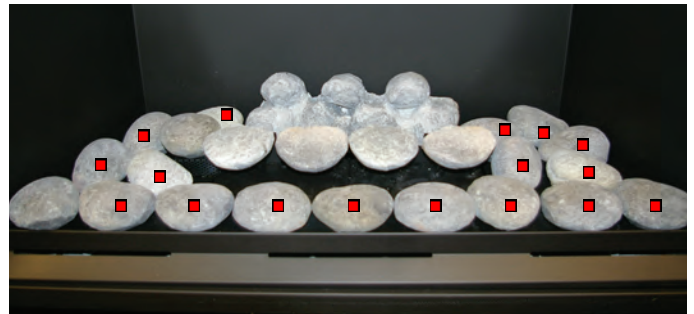

Figure 30e. Placement 18-faux ceramic rock "D", (as shown).
6. Place the Remaining two Front logs (Log F) & (Log G) as shown in figure 30e. Space Logs evenly with log feature direction as shown.